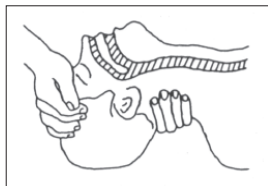

Figure 1
- Open airway: lift up neck, push forehead back (**Figure 1**).